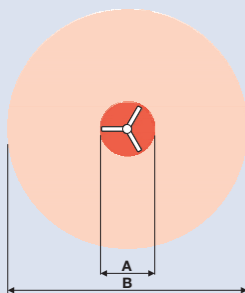

Fig. 17: Area of effect of a ceiling fan in heat recirculation in winter
The highest air velocity (Fig. 17) also prevails during heat recirculation with ceiling fans in winter directly under the fan's blade radius (A).